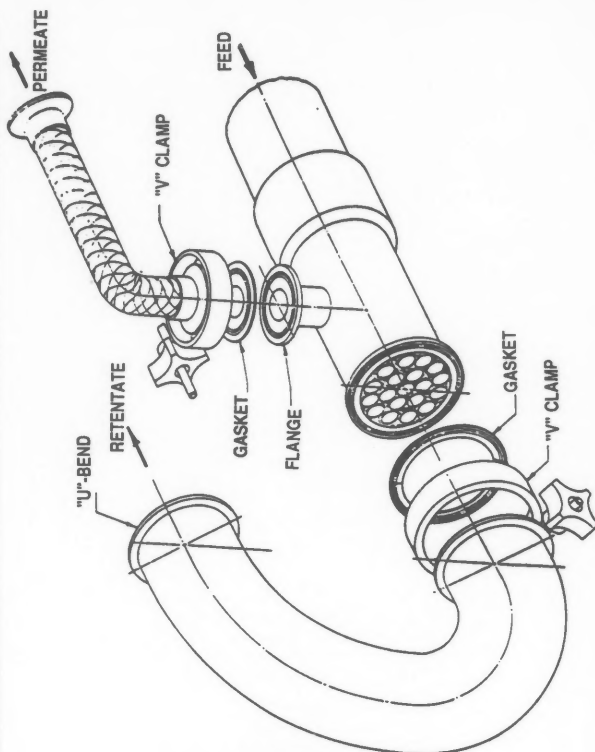

Figure F.1.5
- c. **Potted** - Here a bundle of tubes are potted together and sealed into an external shroud that has inlet and outlet fittings for the product. The tubes are self supporting with the shroud serving as the permeate collection vessel. See Figure F.1.5.